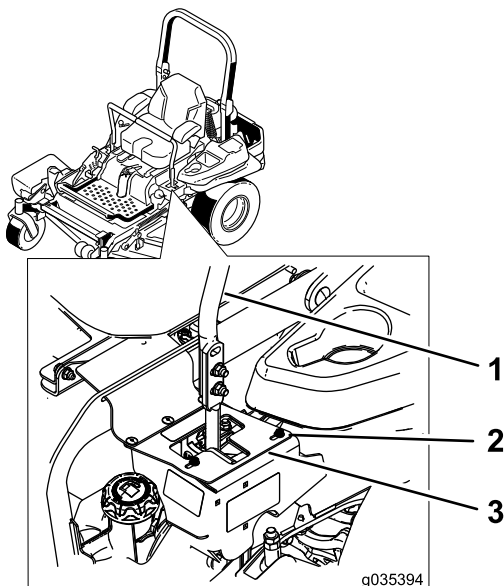

Figure 71
6. If the machine tracks to the right, loosen the bolts and adjust the left stop plate rearward on the left T-slot until the machine tracks straight (Figure 71).
7. If the machine tracks to the left, loosen the bolts and adjust the right stop plate rearward on the right T-slot until the machine tracks straight (Figure 71).
8. Tighten the stop plate (Figure 71).